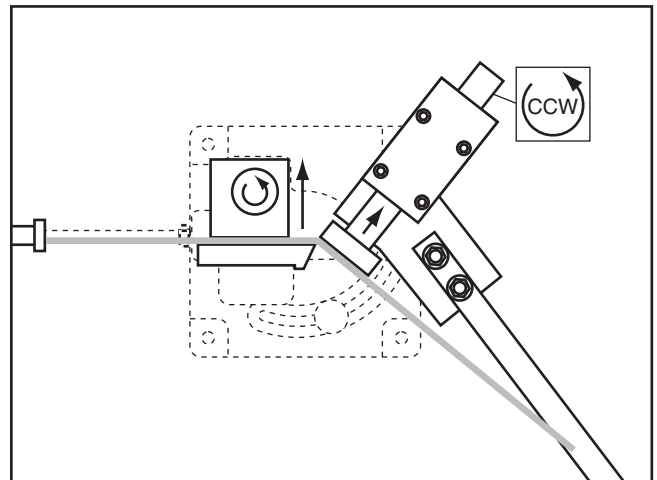

Figure 15. Releasing workpiece.
- Loosen the bending plate and clamp cam shaft to release the workpiece (**Figure 15**).